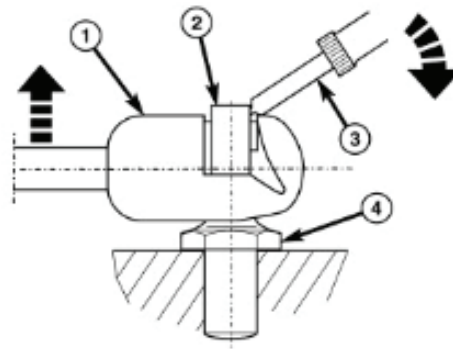

Figure 8
17. Using a small pick or screwdriver, pry out on the metal spring clip (Figure 8, #2). Pull the air spring head (Figure 8, #1) away from the ball stud (Figure 8, #4) while the spring clip is pulled away. Disconnect the air spring from the bracket only and leave attached to frame rail. Rotate forward out of the way.